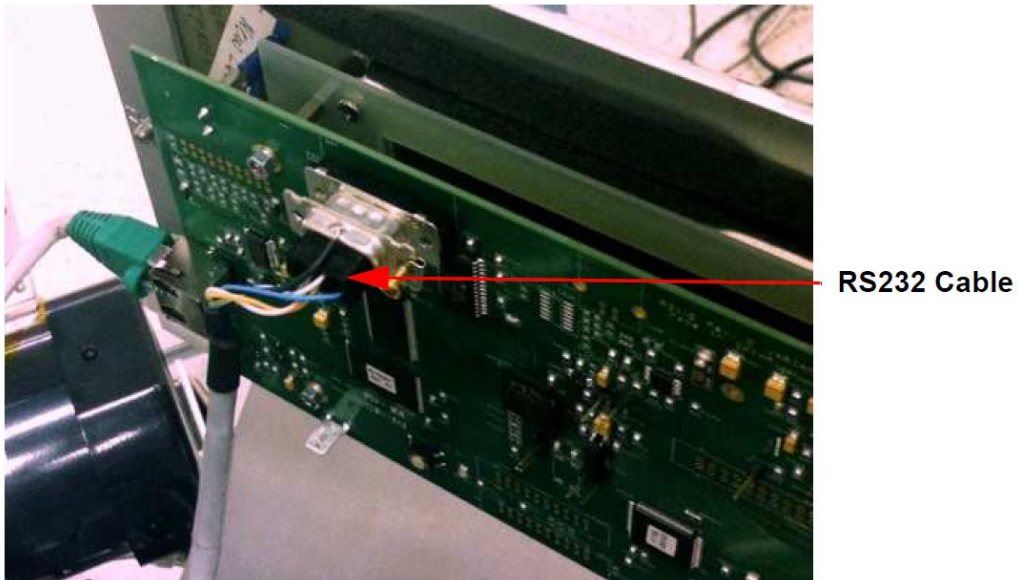

Figure 8: RS232 Cable
- 15) Connect the RS-232 cable end labeled J300-2 to P300-COM2 on the front panel display board using its two slotted screws (Figure 8: RS232 Cable).